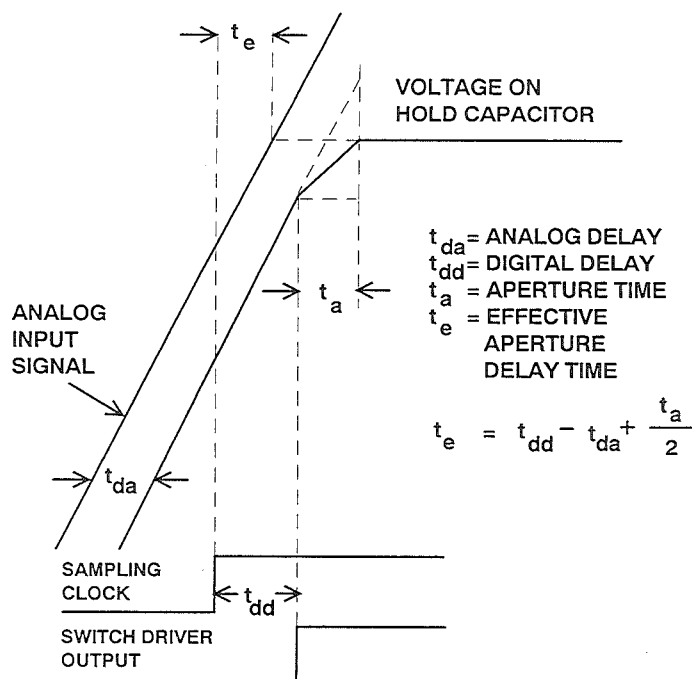

Figure 8.61
*aperture time*. The actual value of the voltage that gets held at the end of this interval is a function of both the input signal and the errors introduced by the switching operation itself. Figure 8.61 shows what happens when the hold command is applied with an input signal of arbitrary slope (for clarity, the sample to hold pedestal and switching transients are ignored). The value that finally gets held is a delayed version of the input signal, averaged over the aperture time of the switch as shown in Figure 8.61. The first-order model assumes that the final value of the voltage on the hold capacitor is approximately equal to the average value of the signal applied to the switch over the interval during which the switch changes from a low to high impedance ( $t_a$ ).